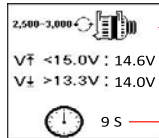

Fig.44
5. Then rev the engine to around 3,000 RPM and hold at this speed. Press  key to continue and display will show. (See Fig. 44).